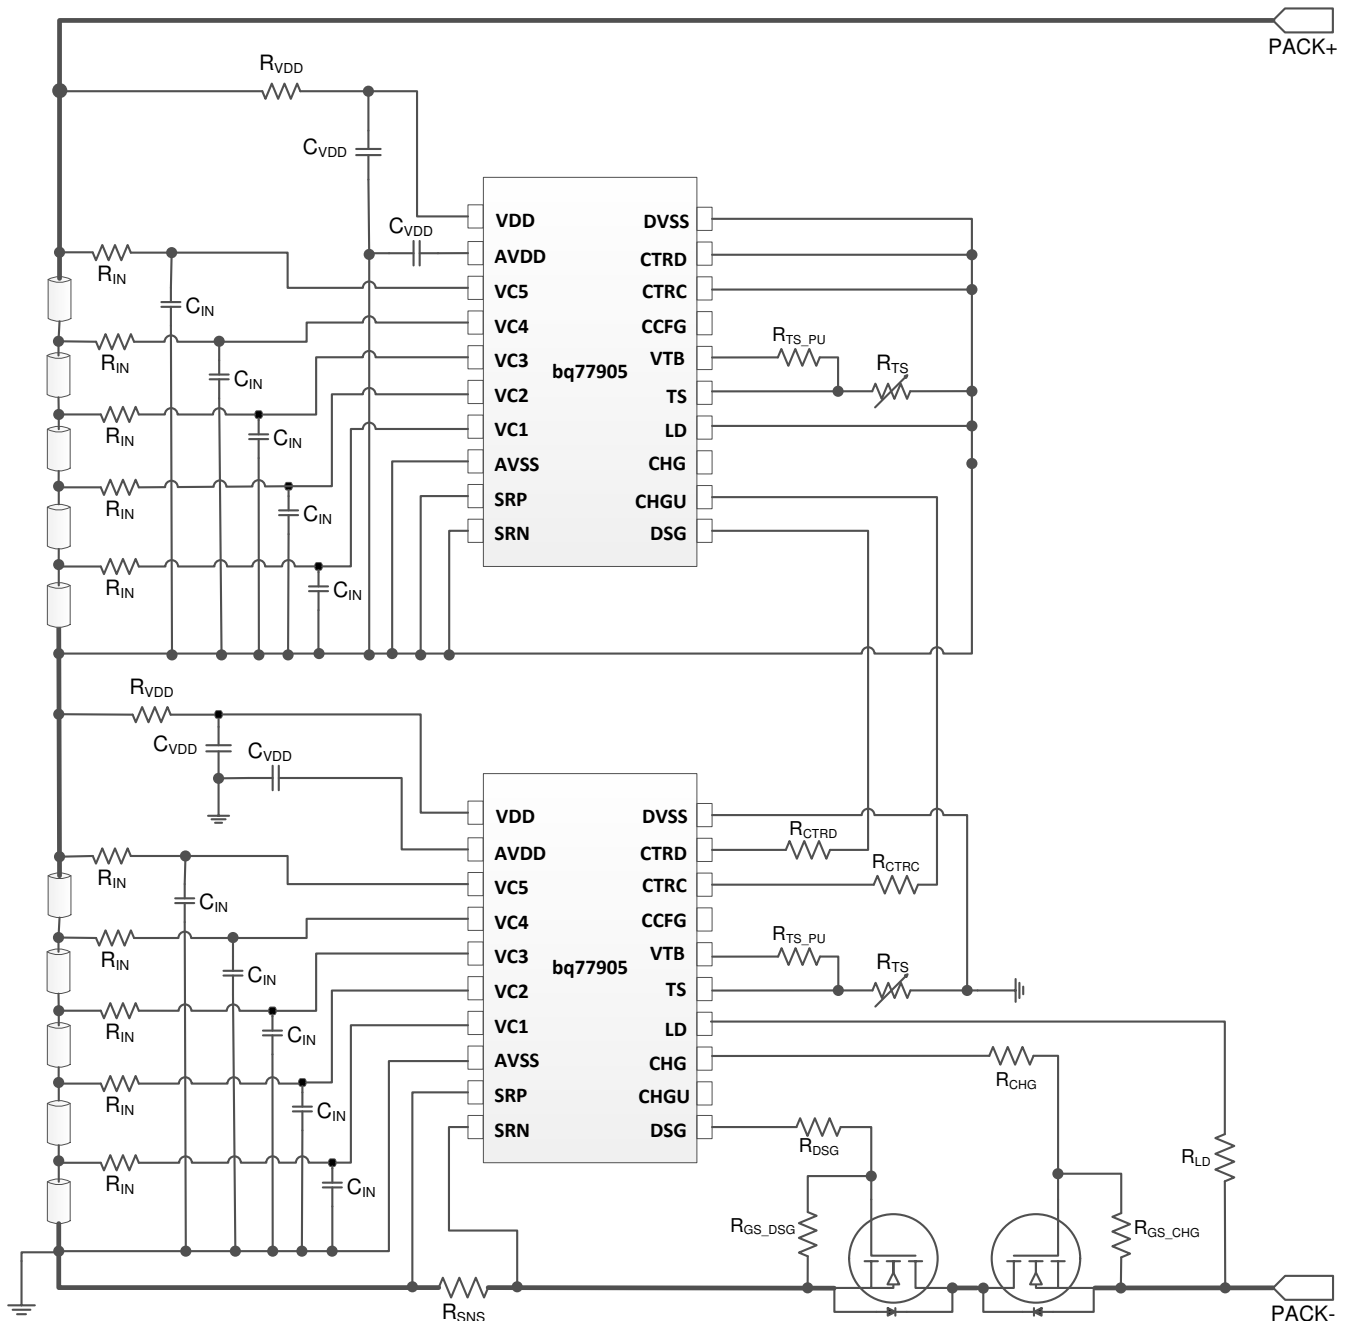
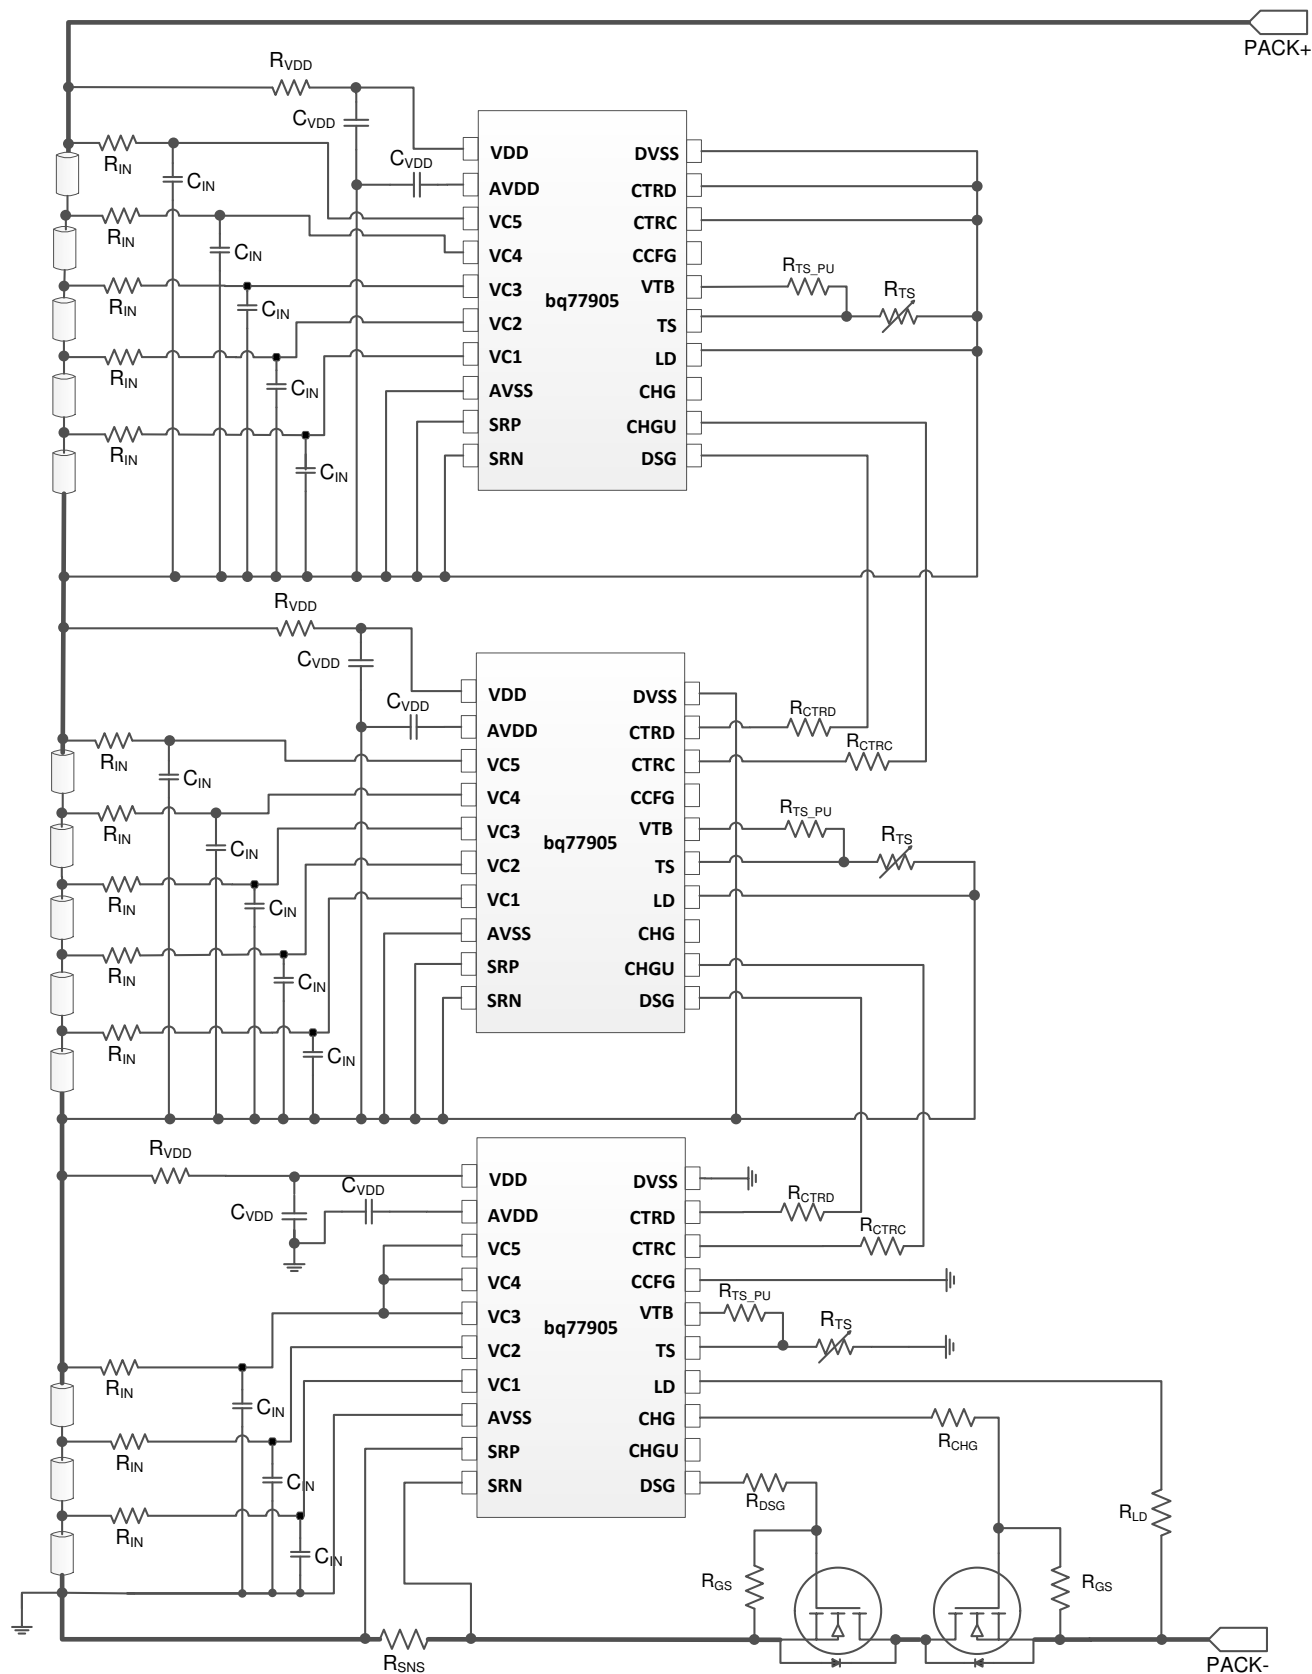
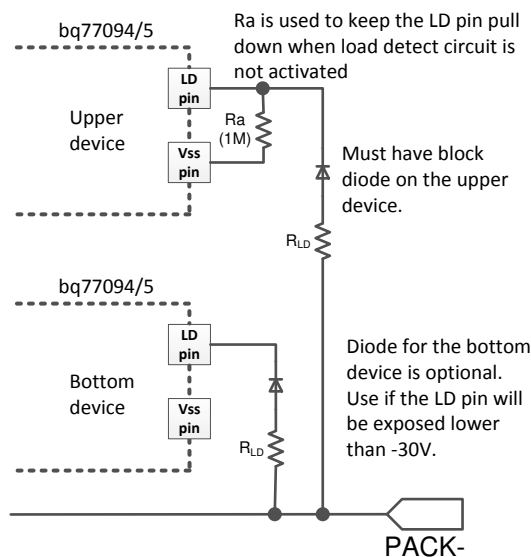

图 8-9. 10S Pack Using Two BQ77905 Devices
图 8-10. 13S Pack Using Three BQ77905 Devices
图 9-7. Simplified Circuit: LD Connection on Upper Device When Using for UV Fault Recovery
- If load removal is not used for UV recovery, connect the upper device LD pin to its AVSS pin, as shown in Figure 8-9 and Figure 8-10. Otherwise, refer to Figure 9-7 for proper LD connection.
To ensure load removal is detected properly during a UV fault, TI recommends to use $3.3\text{ M}\Omega$ for R_{GS_CHG} (instead of a typical of $1\text{ M}\Omega$ when load removal is NOT required for UV recovery). R_{CHG} can stay in $1\text{ M}\Omega$ as recommended when using CHG FET protection components. The CHG FET rise time impact is minimized as described in the Protecting CHG FET section. On a stacked configuration, connect the LD pin, as shown in 图 9-7 if load removal is used for a UV fault recovery. If load detection is not required for a UV fault recovery, a larger value of R_{GS_CHG} can be used (that is, $10\text{ M}\Omega$) and the LD pin on the upper devices can be left floating.